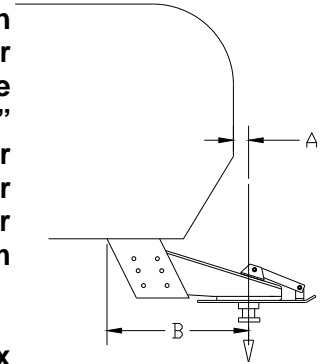

Figure 1
2. The trailer king-pin must be kept even with /or forward of the foremost point of the trailer. See "Caution" and "figure 1" on pg. 3.
3. Trucks with bed liners may need a tall Mounting Post. See "NOTE" under item 3 of "Drilling the Bed" on pg. 11 for detail.
4. Read these instructions completely and follow them accurately. Should you have any questions, please call the factory at (800) 443-2307 for installation assistance.
As a general rule, for the SuperGlide hitch to maintain proper clearance to the truck, the leading edge of the trailer (measured at the corner) should be even with the center of the king pin. (Figure 1). Most truck trailer combinations will allow 102" wide trailers if the king pin is located as described. Narrower trailers will allow the king pin to be "tucked" under the trailer over hang to some extent. Call PullRite technical support with trailer width, make and year of truck and distance the king pin is from leading edge of the trailer. 1-800-443-2307
Using a trailer that has a long rear slope to the King Pin Box Hangar, "B" in (Figure 1), may cause damage to the trailer or truck bed during turns. Dimension "B" must be less than one half the width of the inside top edges of the bed. Please call PullRite technical support, 1-800-443-2307, if more information concerning this problem is needed.